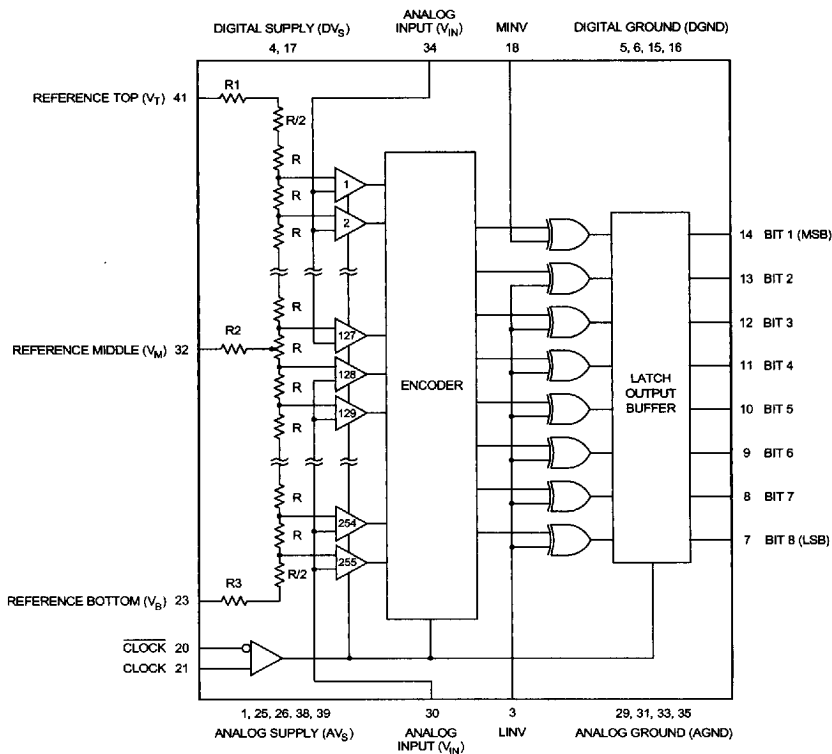

Figure 1. Functional Block Diagram
- ① Refer to Functional Block Diagram, Figure 1.
- ② For conversion rate of 125MHz.
- ③ TPS = Times per sample. Each unit is production tested for 10 seconds.
- ④ 220 Ω pull-down resistors required on digital outputs.